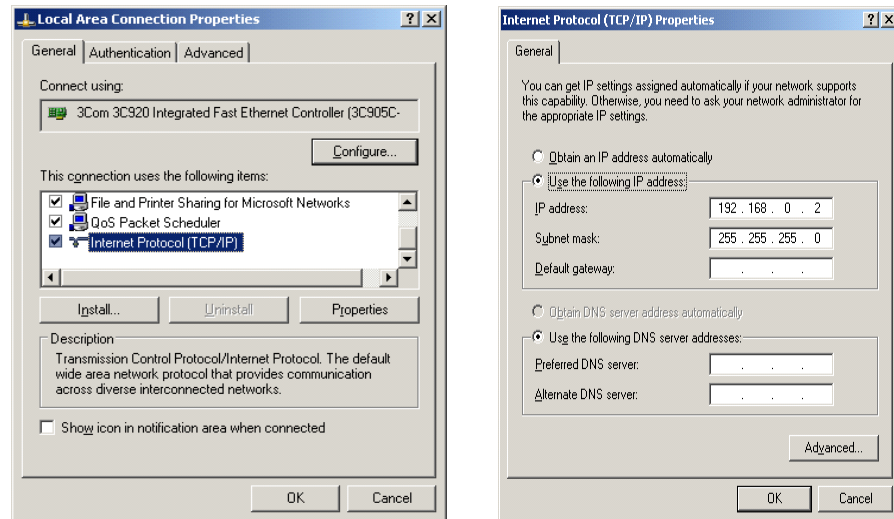

Figure D-6: Local Area Connection and Internet Protocol Properties Dialog Boxes
- d. In the Properties pane (Figure D-6), select Internet Protocol (TCP/IP) and click the Properties button. The Internet Protocol Properties window (at right in Figure D-6) displays.